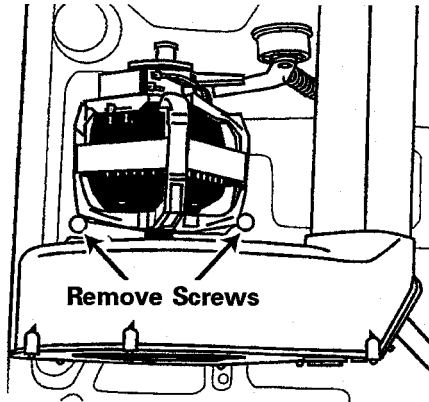

Figure 2-49
9. Remove two screws securing motor to base frame. An extension is required to reach the screws. Screws are located directly behind the blower housing, *see Figure 2-49.*